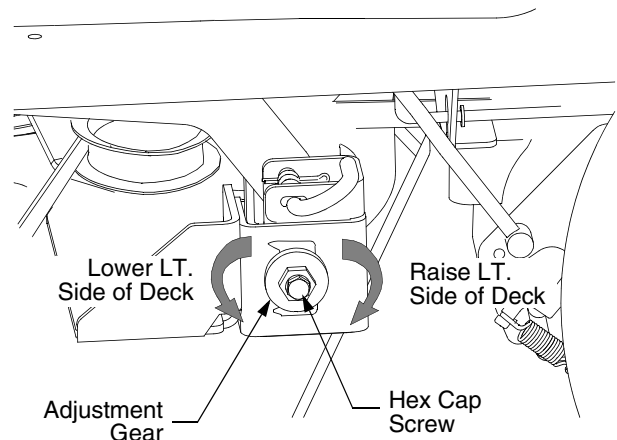

Figure 32
- Loosen, but do not remove, the hex cap screw on the left deck hanger bracket. Refer to Figure 32.